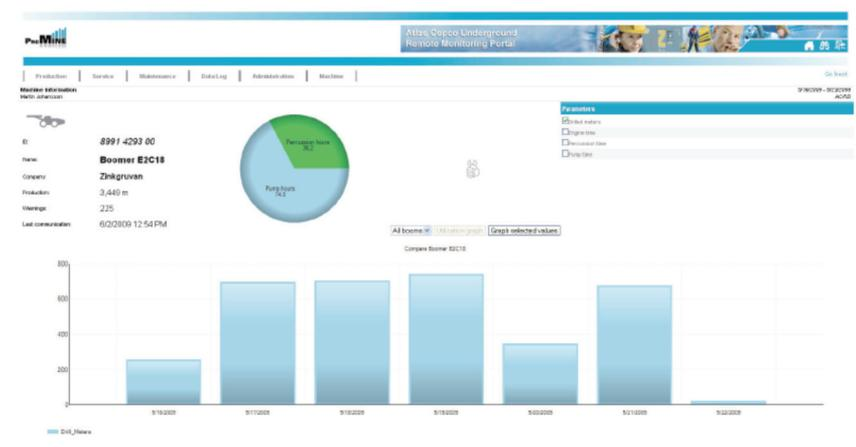

Figure 7. Production statistics (TME)
- Machine output (refer Figures 7 and 8).